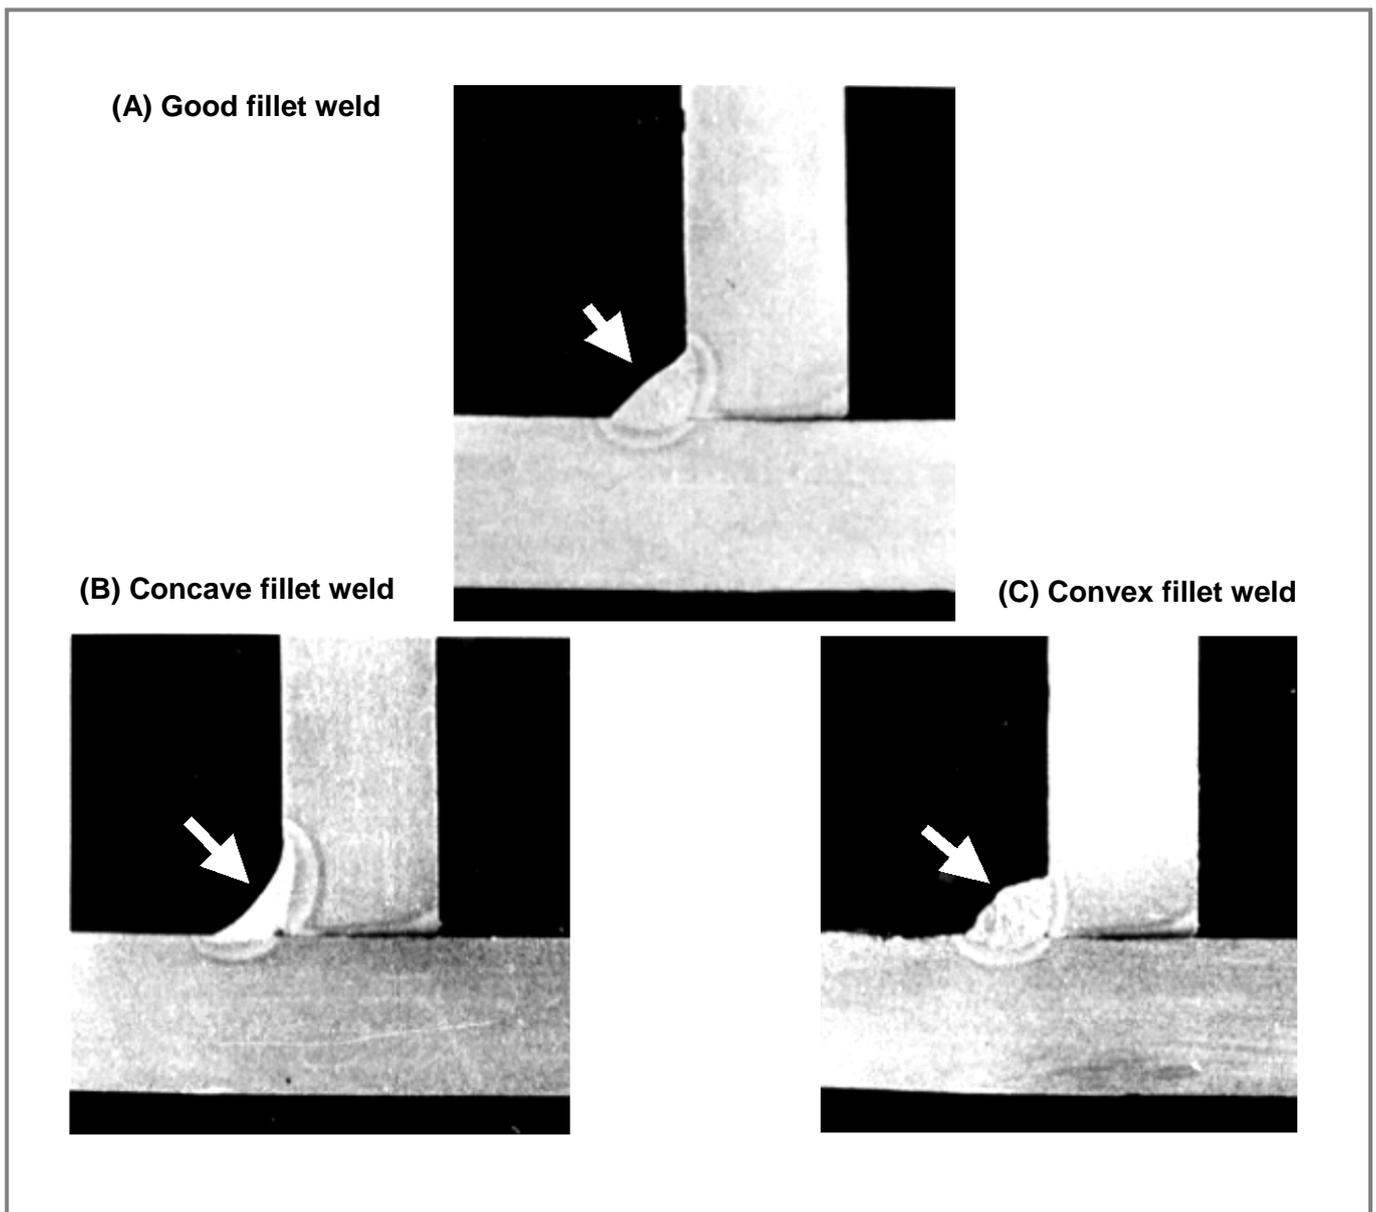

Fig. 3 CONCAVE FILLET WELD, CONVEX FILLET WELD
- Fig. 3 — Concave fillet weld, Convex fillet weld